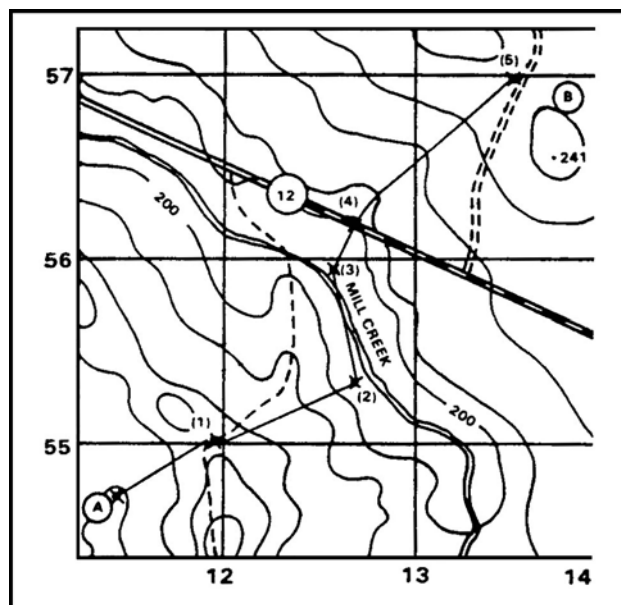

Figure 5. Distance between checkpoints.
- (1) Locate the start point and finish point on the map (Figure 5).